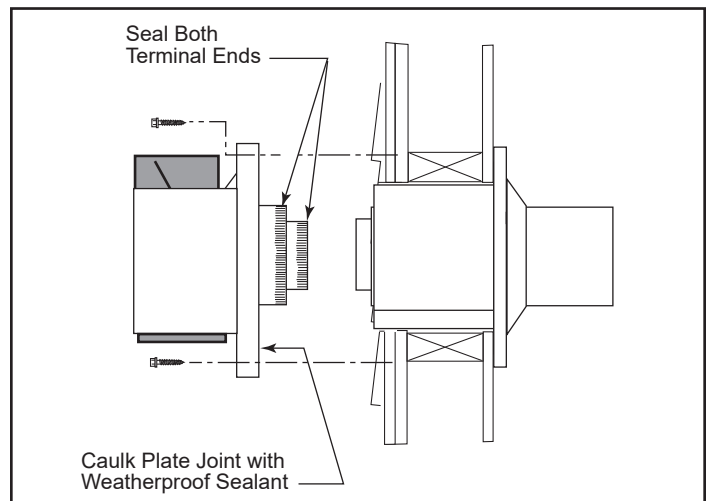

Figure 27 - Install the vent terminal.
10. **For both Hearth & Home Technologies and DuraVent Systems:** Install the vent terminal. (Figure 27) Apply high temperature sealant one inch from the ends of the inner and outer collars. Guide the inner and outer vent termination collars into the adjacent pipes. Double check that the vent pipes overlap the collars by 2". Fasten the termination to the wall with the screws provided, and caulk the joint with weatherproof sealant.